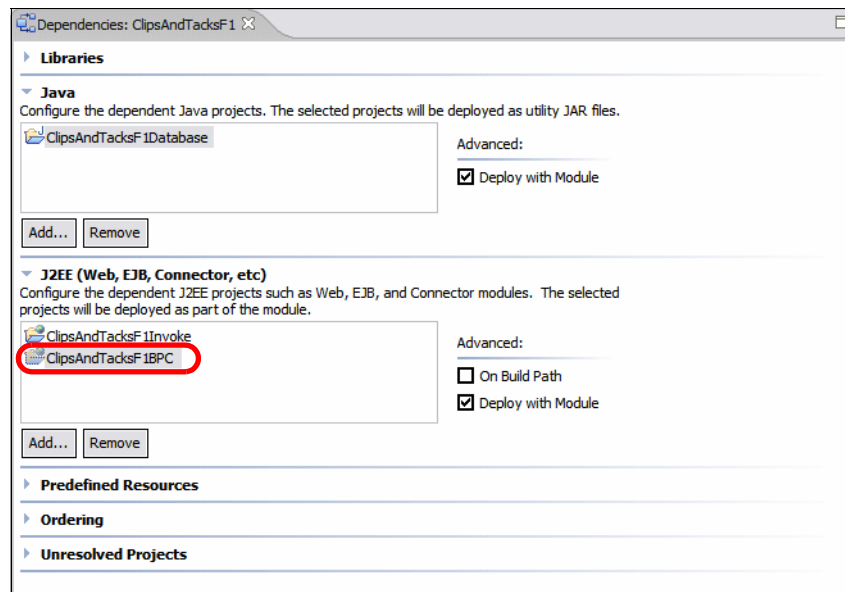

Figure 10-51 *ClipsAndTacksF1 Dependencies Editor*
- ▶ Expand the J2EE section and click *Add*. Select `ClipsAndTaskF1BPC` and click *OK* (Figure 10-51).